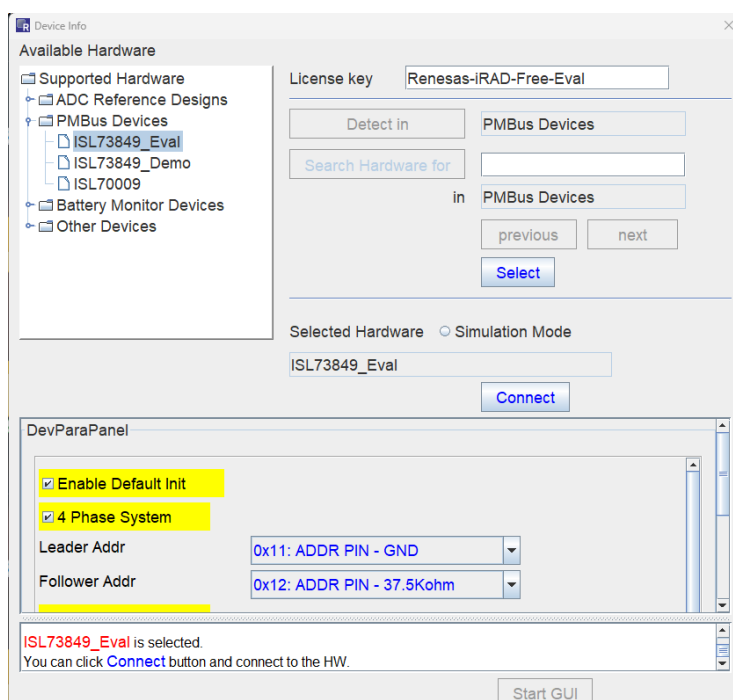

Figure 5. ISL73849_Eval 4-phase setup
14. Click the **Select** button. The **DevParaPanel** window opens as shown in Figure 5.
15. Select the checkbox for the 4-Phase System as shown in Figure 5.
16. Set the Leader and Follower PMBUS address to match the selection on the board by using the **Leader Addr** and **Follower Addr** selection boxes as shown in Figure 5.